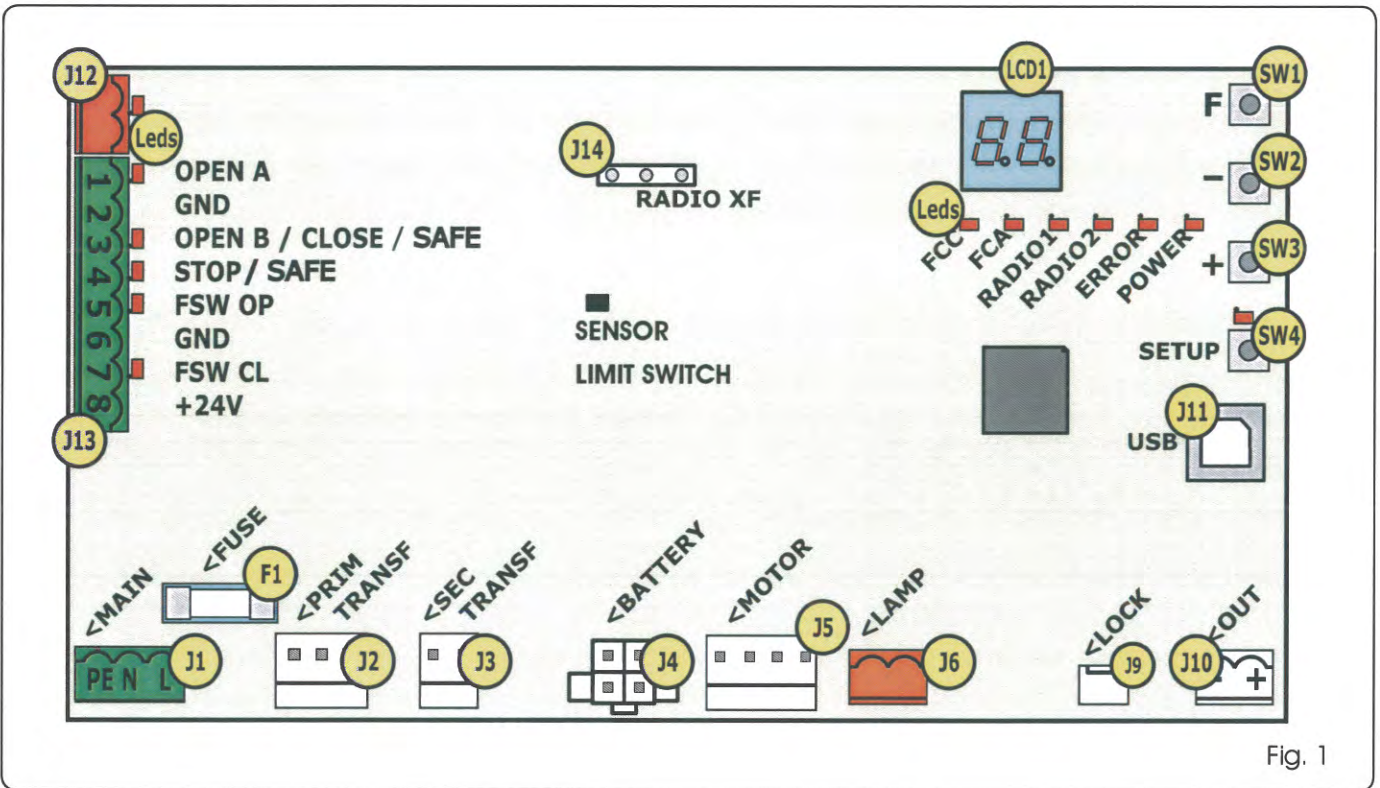

Fig. 1
- If no BUS-2EASY accessory is used, leave the BUS-2EASY connector (J12 - fig. 1) free.**